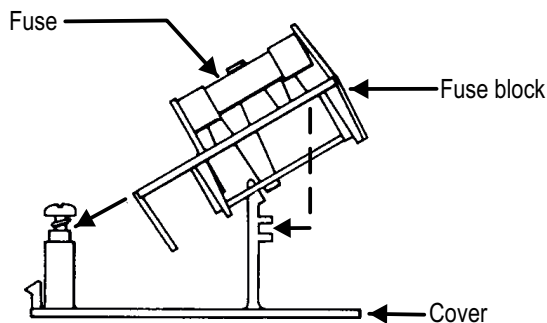

Figure 3-7. Changing fuse types
3. On the back of the cover, loosen the Phillips screw two turns, then remove the fuse block by sliding up, then away from the screw and lifting from pedestal at the other end (refer to Figure 3-7).